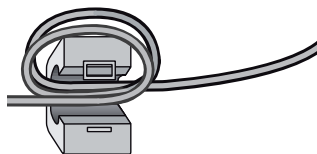

Fig. 8
- Make two loops in the mains cord or the power cord and lay them inside the ferrite sleeve as shown in Fig. 8.